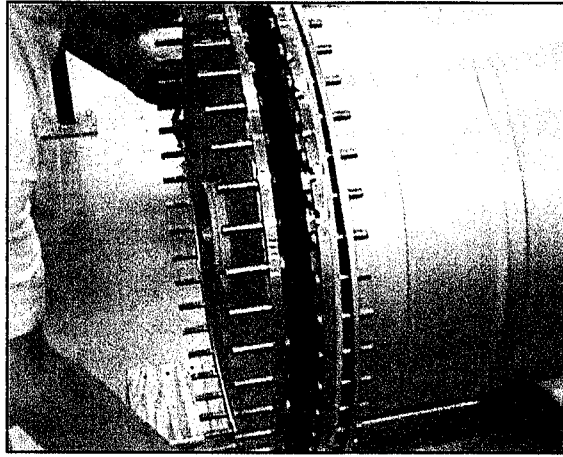

Figure 23 – Assembled Aft End
- d. Install aft end diaphragm-damper assembly onto distance piece side "A", aligning match-marks. Care should be taken not to push bolts back into diaphragm. Add a few washers and nuts to temporarily secure. (See Figure 23)